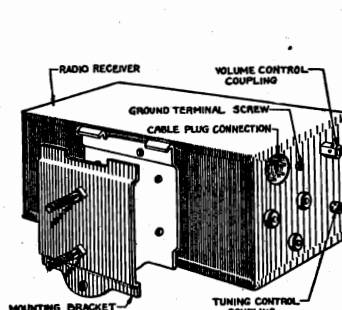

FIGURE 2
The Receiver mounting plate must be fastened to the Receiver housing, using the four (4) self-tapping screws. Four (4) holes are provided for these screws in the side of the housing. To fasten the speaker mounting plate to the speaker, first remove the four (4) hex-head machine screws from the back of the speaker. Use these same four (4) screws to fasten the mounting plate to the back of the speaker. Figures 2 and 3 show the correct positions of the brackets
Connect the interconnecting cable to both the Receiver and the Speaker, the six (6) hole plug connecting to the Receiver and the four (4) hole plug to the Speaker. The shield terminals at the cable ends must be grounded under their respective ground terminal screws on the Receiver and Speaker housings, shown in Figures 2 and 3. Ground the pigtail in the center of the cable to the dash, using the hole that holds the dash lining retainer and the 8-32 screw.